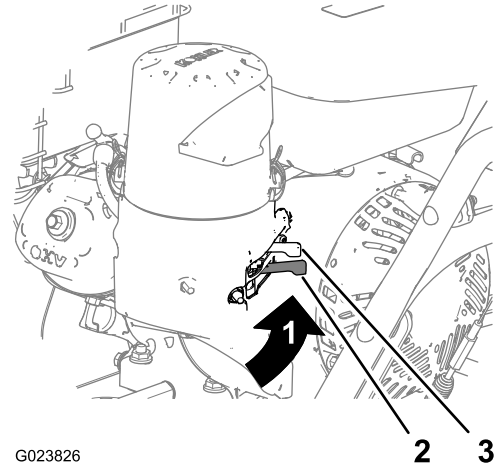

Figure 9
Move the fuel-shutoff valve located below the choke, to the right to turn on fuel (Figure 9).
- On the rear, left side of the engine, move the choke lever to the left to the ON position. On a warm engine, leave the choke in the OFF position (Figure 9).
- Allow the engine to warm up for several minutes, then move the choke toward the OFF position (Figure 9).
- Use the fuel-shutoff valve to shut off the flow of fuel when you will not use the machine for a few days, park the machine inside a building, or transport the machine to and from the job site (Figure 9).